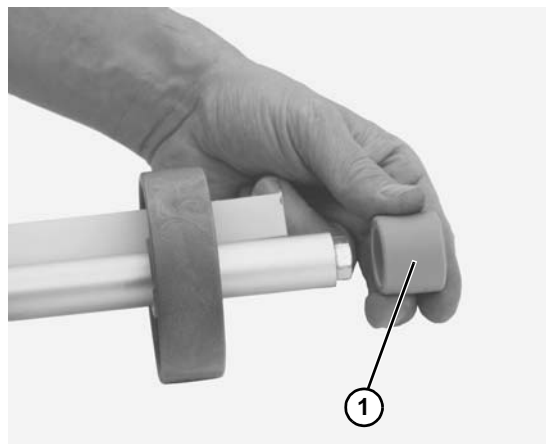

Figure 92
7. Remove tube spacer from shaft (**Figure 92, item 1**).